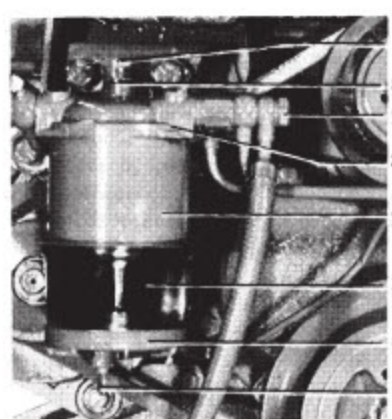
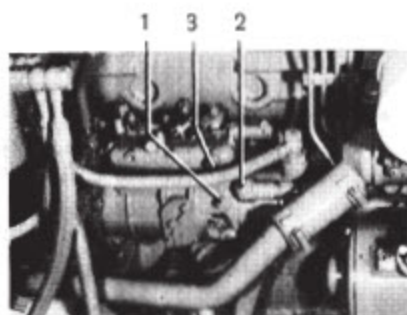

Fig. 19. Fine filter and water
Fig. 20. 4-cyl. engine
Each day before starting check to see if water has collected in the bottom of the container. If this is the case, the water can be drained through the drain cock (7 Fig. 19). Then vent the system (see point 9).
Thoroughly clean the entire filter housing externally. Clean the inside of the container also thoroughly (see Fig. 19). Check that the seals are not damaged. Fit a new filter. Vent the fuel system (see point 9).
Open the venting screw (1, Fig. 19) on the fine filter. Manually pump with the feed pump until fuel without air is obtained. Tighten the venting screw.
1. Replace the banjo screw (2, Fig. 19) with a special screw, part. No. 884308 (can be ordered from AB Volvo Penta dealer).
2. Open the venting screws 1, 2 and 3 according to Fig. 20 or 21 and 1, Fig. 19, also disconnect the delivery pipe connections on the injectors.
3. Manually pump with the feed pump until fuel without air is obtained at 1, Fig. 19, then tighten the venting screw. Continue pumping until fuel without air is obtained at 1, Fig. 20, or 21. Tighten the screw.
5. Move the speed control to full throttle. Turn the engine with the help of the starter motor until fuel without air is obtained at 2, Fig. 20 or 21. Tighten the screw.
7. Start the engine. When fuel flows at 3, Fig. 20 or 21, then tighten the screw securely.